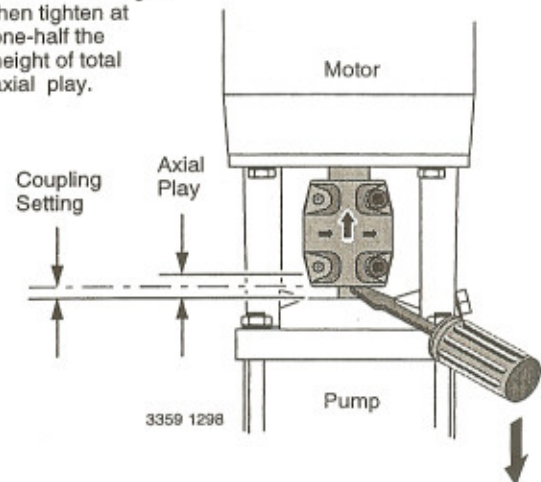

FIGURE 10 - Vertically (axial) Centering the Coupling
16. Insert a screw driver under the coupling (See Figure 10).
18. Lower the shaft halfway back down the distance you just raised it and retighten the capscrews. See Figure 10.